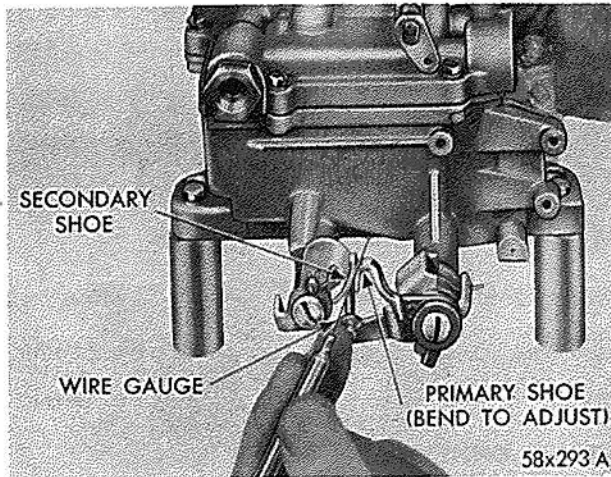

Fig. 11 Determining Clearance Between Primary and Secondary Shoes
- (3) The stop lugs on both the primary and secondary throttle levers should contact the bosses on the flange at the same time.
- (4) If an adjustment is necessary, bend the secondary throttle operating rod at the angle, using Tool T-109-213, until correct adjustment has been obtained.
- (5) At wide open throttle, the primary and secondary throttle valves should reach the full vertical position.
- (6) With the primary and secondary throttle valves in the tightly closed position, it should be possible to insert Tool T-109-29 (.020 inch) wire gauge, between the positive closing shoes on the secondary throttle levers, as shown in Figure 11.
- (7) If an adjustment is necessary, bend the shoe on the secondary throttle lever, using Tool T-109-22, until correct clearance has been obtained.